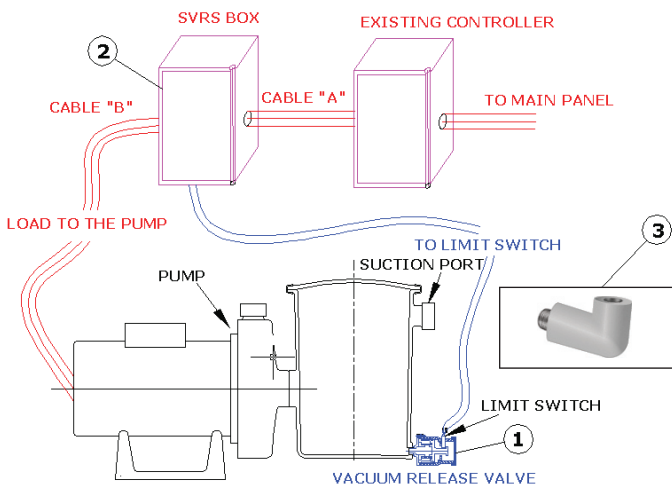

Figure 1. Breather III System Schematic
1. PARTS LIST (See Figure 1)
- a. A piece of cable with copper conductors same gauge as the existing cable to make cable "A" and cable "B" if needed. See Figure 1.
- 4.6 Remove the most convenient knockout of the SVRS box and attach incoming line from existing timer or controller cable “A” to box using proper conduits and cable connectors as shown in Figures 1 and 3.
- 4.7 If your pump is cord and plug connected, remove plug at end of pump cord. Split cord about 4 inches and strip wire ends 1/2 inch. Remove the most convenient knockout of the SVRS box and attach cord to box using proper strain relief grommet as shown in Figures 1 and 3.
- 4.8 If your pump is hard wired, (if needed) prepare cable “B” by stripping the ends of wires about 1/2 inch. Using proper conduits and cable connectors attach cable “B” to the box as shown in Figures 1 and 3.
- 4.9 Connect the cable to the pump motor and then the wires to the motor terminals per motor instructions and nameplate diagram. Remove the most convenient knockout of the SVRS box and attach the other end of the cable to the box using proper cable connector as shown in Figures 1 and 3.